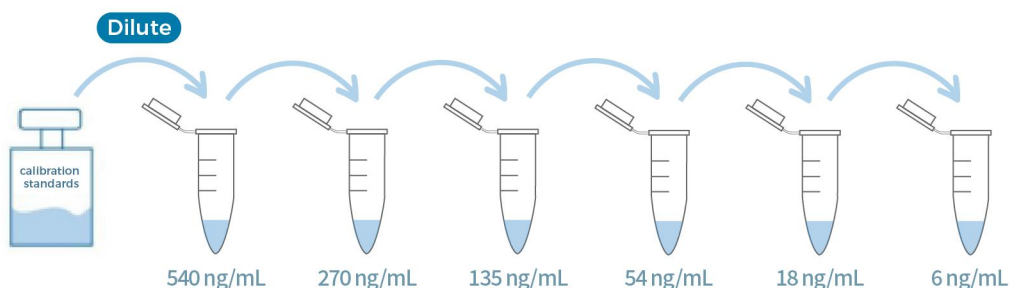

Figure 3. Graphic scheme of HEK 293 HCP Calibration Standard Solutions
- According to Fig 3 and Table 3, prepare HEK293 HCP Calibration Standard Solutions.